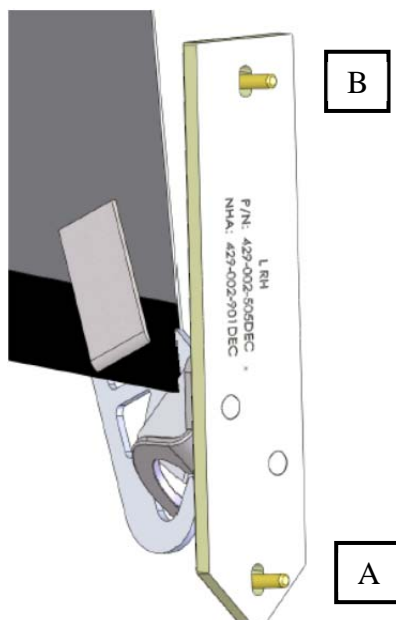

Figure 7.4.1
- 7.4** Start with the lower right hand (**L RH**) bracket assembly. Install the liner screw at location '**B**' through the top slot of the bracket until it is hand tight and will assist in holding the bracket out of the way while the second screw at location '**A**' is installed. Torque all screws to 18-22 in-lbs each. See Figure 7.4.1.